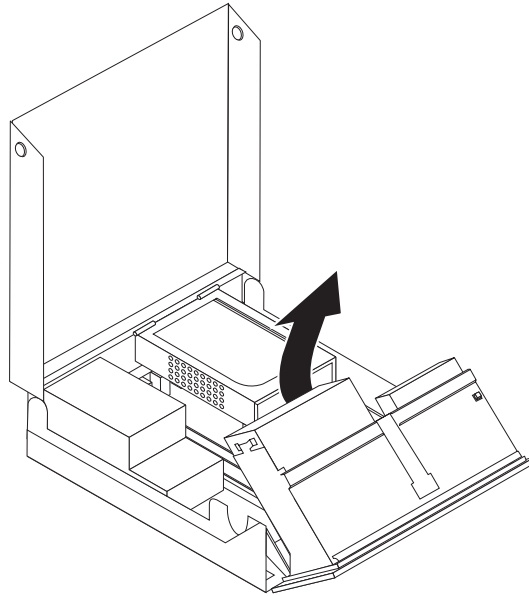

Figure 9. Pivoting the drive bay
2. Pivot the drive bay assembly upward to gain access to the cable connections and remove the drive cables from the drive. See Figure 9.